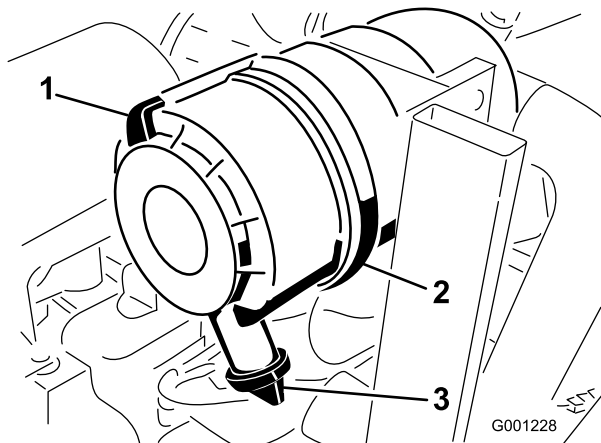

Figure 47
1. Pull the latch outward and rotate the air-cleaner cover counterclockwise (Figure 47).
2. Remove the cover from the air-cleaner body (Figure 47).
8. Install the cover with the rubber outlet valve in a downward position, between approximately 5 o'clock to 7 o'clock when viewed from the end (Figure 47).